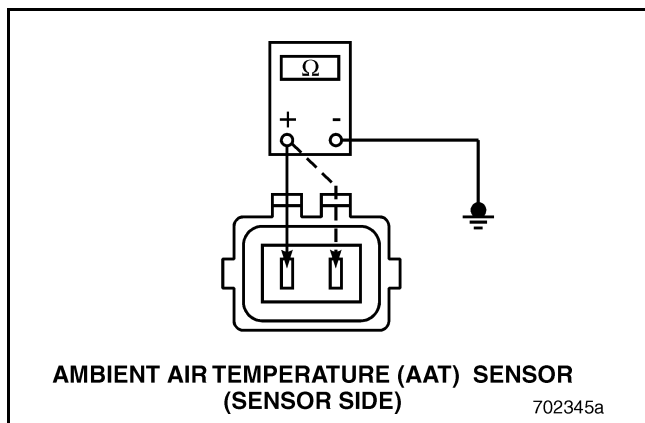

Figure 70
3. Check for continuity between either pin of the AAT Sensor and a good ground (see Figure 70).